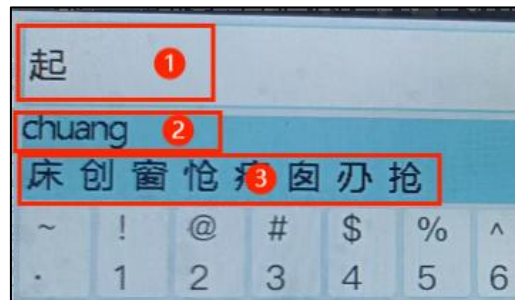

Figure 6-23: Example of PinYin Characters
输入文字坐标 X 和 Y : Set the left-top coordinate of the first entered character, as ❶ shown in Figure 6-23. The reference point (0, 0) is the left-top coordinate of the keyboard page.
提示文字颜色 : Set the color of the prompt characters, as ❷ and ❸ shown in Figure 6-23.
和 Y prompt character, as ❷ shown in Figure 6-23. The reference point (0, 0) is the left-top coordinate of the keyboard page.
汉字提示坐标 X 和 Y : Set the left-top coordinate of the Chinese prompt characters, as ❸ shown in Figure 6-23. The reference point (0,0) is the left-top coordinate of the keyboard page.